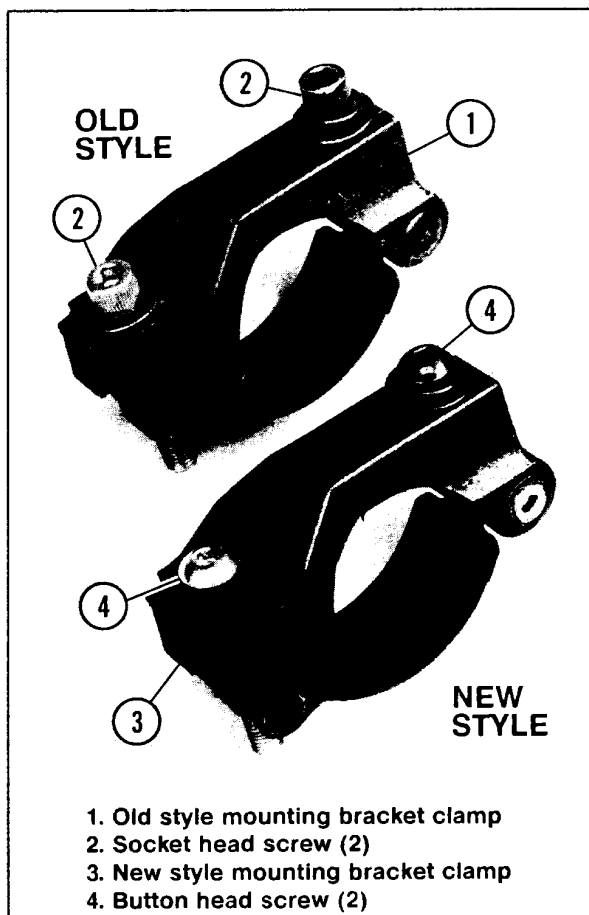

Figure 1. Convertible Windshield Mounting Bracket Clamps - Old Style (from Kit 91849-85A) and New Style (from Kit 91849-85B)
See Figure 1. FXR and FXD models equipped with accessory Convertible Windshield Kit 91849-85A will have the old style windshield mounting bracket clamps (1) installed and will require replacement of the clamps; refer below.